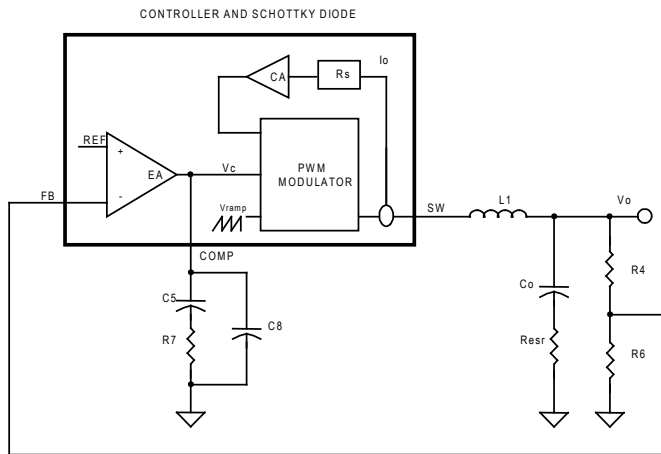

Figure 7. Block diagram of control loops
The goal of compensation is to shape the frequency response of the converter so as to achieve high DC accuracy and fast transient response while maintaining loop stability (see Figure 7).
The block diagram in Figure 7 shows the control loops of a buck converter with the SC4524C. The inner loop (current loop) consists of a current sensing resistor ($R_s=5.5\text{m}\Omega$) and a current amplifier (CA) with gain ($G_{CA}=18.5$). The outer loop (voltage loop) consists of an error amplifier (EA), a PWM modulator, and a LC filter.
For a converter with switching frequency F_{SW} , output inductance L_1 , output capacitance C_o and loading R , the control (V_c) to output (V_o) transfer function in Figure 7 is given by: